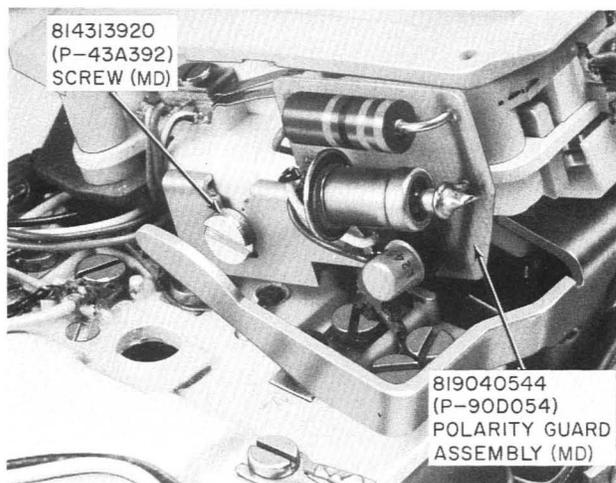

Fig. 11—D-180229 (MD) Kit of Parts (Polarity Guard) Mounted in PRINCESS Telephone Set
(5) Reinstall dial mounting bracket, securing the 819040544 (P-90D054) guard assembly mounting bracket under the right-hand dial mounting screw (Fig. 11).
(6) Reinstall housing.